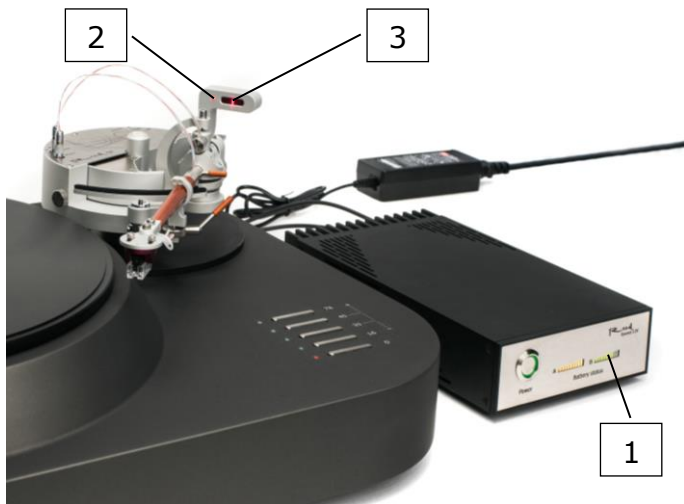

Figure 20
- Screw out armwand base pad [3b] rotation limiter screw [1] in a way that first spiral of its thread would match tonearm body edge (Figure 20).
- At least one Battery status indicator bar should be lit green [1] (Figure 20).